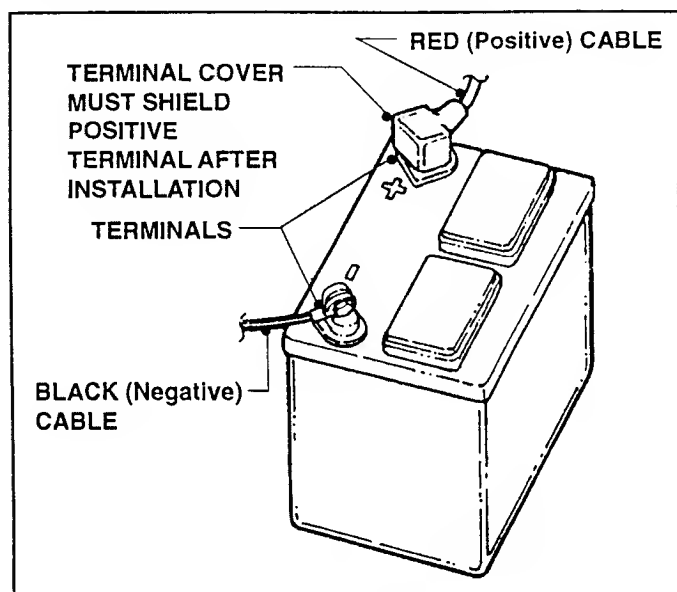

FIGURE 3.5
4. With Cell Caps removed, connect Battery Charger to Battery Terminals. RED to Positive (+) Terminals and BLACK to Negative (-) Terminal. See Figure 3.5 on Page 3.5.